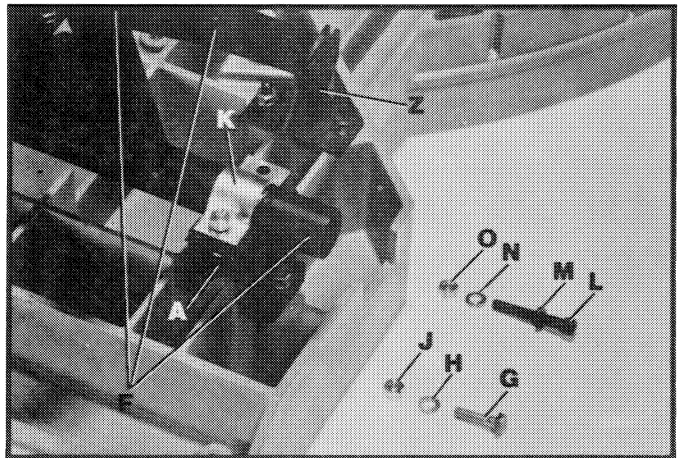

Fig. 3
3. Assemble the leg assembly (F) Fig. 3, to the bottom of the leg brackets (A) using the two 1" long hex head screws (G), lockwashers (H), hex nut (J), and clamps (K), and fasten the two leg brackets (Z) to the bottom of the fixed table using the two 1-3/4" long allen screws (L), flatwashers (M), lockwashers (N) and hex nuts (O). Assemble the other end of the leg assembly (F) Fig. 3, to the bottom of the leg bracket and saw in the same manner.